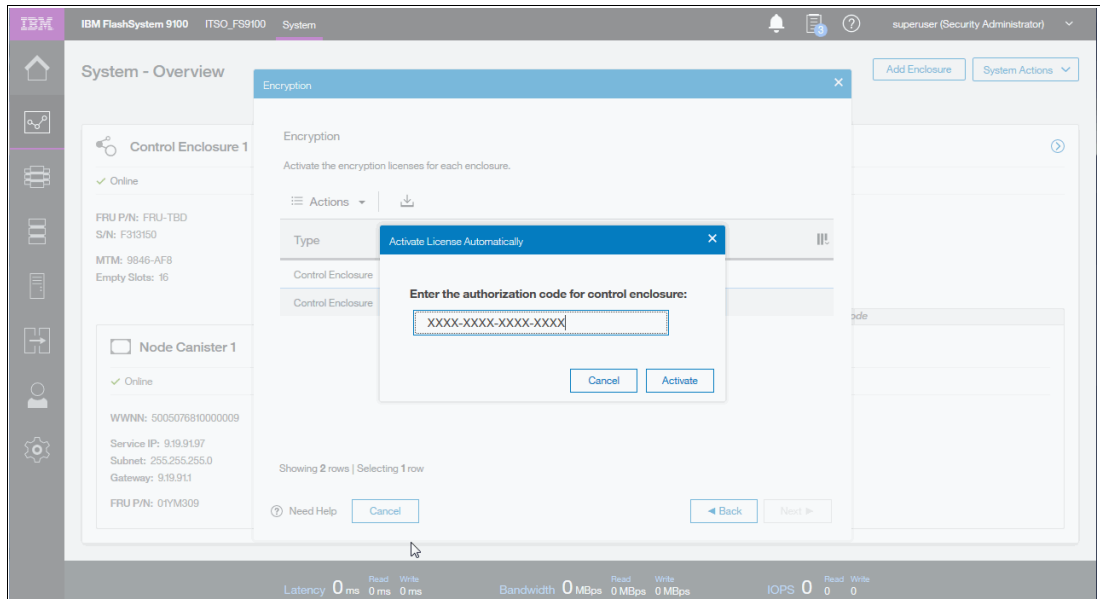

Figure 5-38 Enter Activation encryption key
4. Enter the **Authorization Code** for control enclosure, as shown in Figure 5-38.